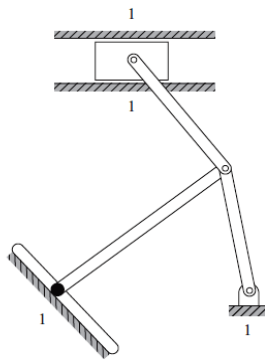

Figure 1.
b) Use the Kutzbach's criterion to determine the mobility of the mechanism shown in figure 1. [7M]